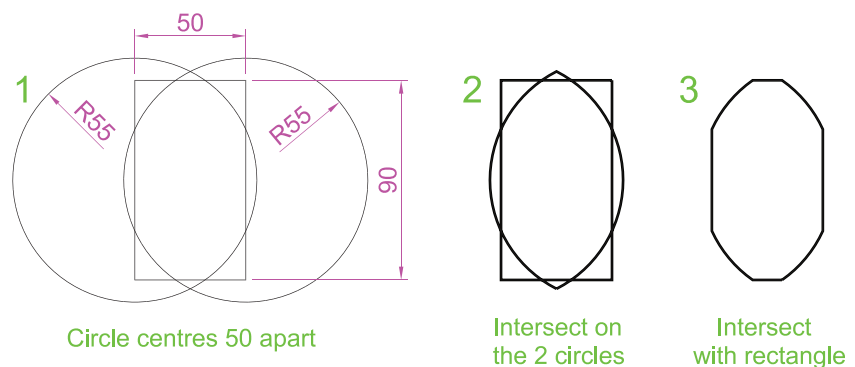

Fig. 12.13 Third example – **Intersect** and **Region**
Third example – **Intersect** and **Region** (Fig. 12.13)
1. Construct drawing 1 of Fig. 12.13.